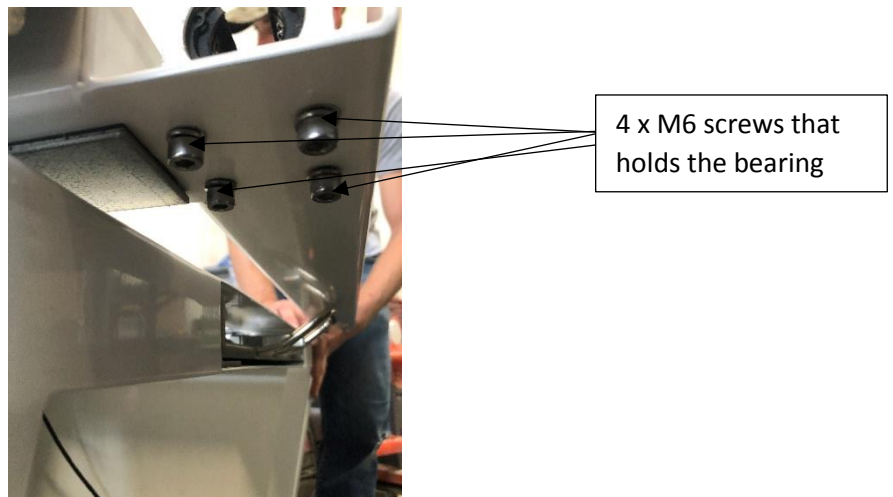

Figure 3: 4 screws from the bottom that holds the ball bearing. It needs to be loosened before inserting the tabletop.
- 1.13. Loosen the four-ball bearing (refer to figure 3)